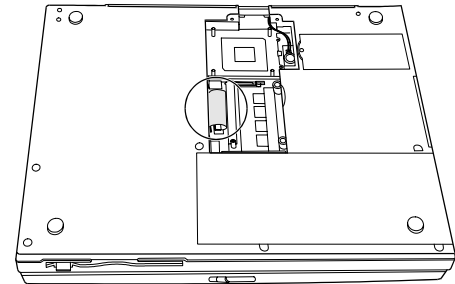

Figure 5-8. Unplugging the CD-ROM Drive Cable
3. Unplug the CD-ROM/DVD-ROM drive cable from the system board. (Refer to Figure 5-8)
3. Connect the CD-ROM/DVD-ROM drive cable to the system board. (Refer to Figure 5-8 earlier.)